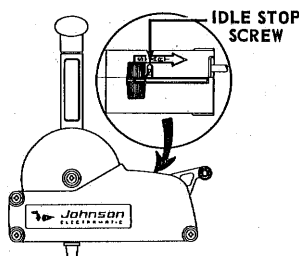

Figure 9
6. (Models RK only.) Return to remote control box; move auxiliary throttle lever to "start" position and attempt to start engine. If starter will now crank engine, safety switch and control box are properly adjusted. If starter does not crank engine, however, move auxiliary throttle to full forward (idle position) and adjust idle stop screw 1/2 turn *counterclockwise* with small screwdriver (Figure 9). Move auxiliary throttle back to maximum "start" position and turn starter key to crank engine. Repeat this procedure, if necessary, until safety switch permits starter to crank engine. No further adjustment is normally required.